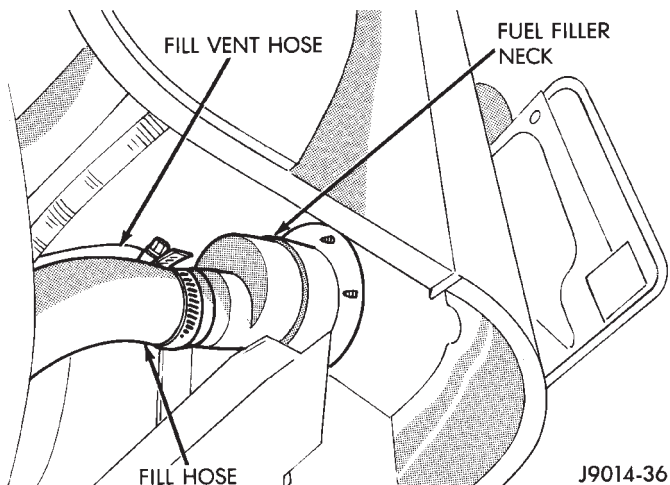

Fig. 5 Filler Neck Hoses—YJ Models
- (5) Disconnect fuel fill hose and fill vent hose from filler neck (Fig. 5).